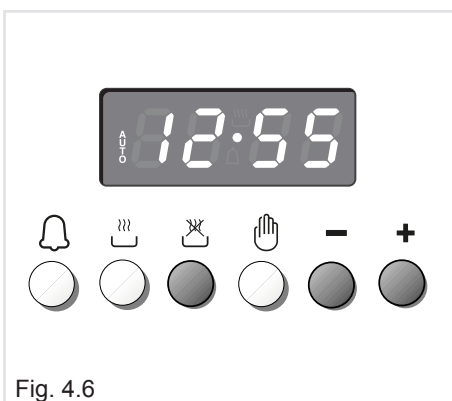

Fig. 4.6
2. Set the end of the cooking time by pressing the button (the cooking time already added to the clock time will appear), and the $+$ button (fig. 4.6); if you pass the desired time you may get back by pushing the $-$ button.